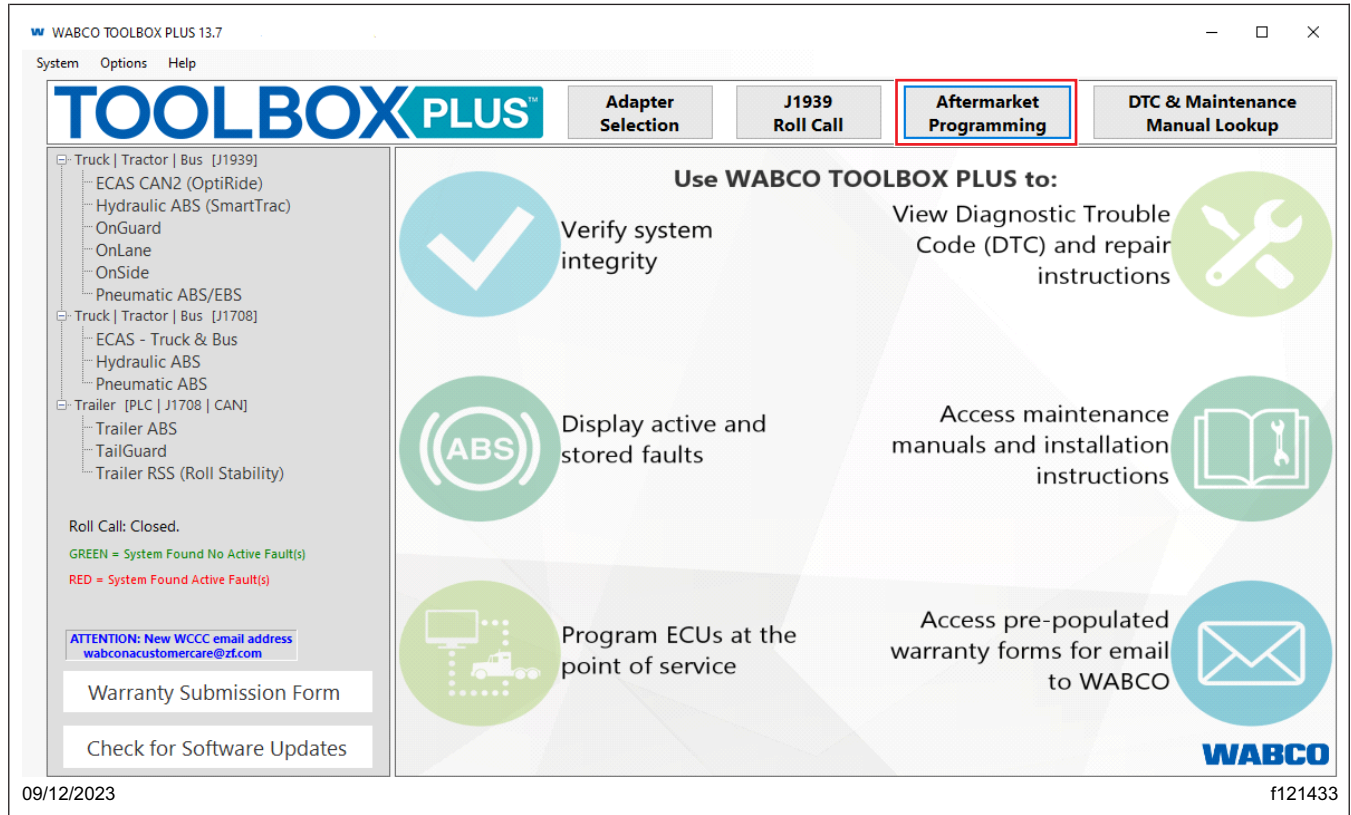

Fig. 17, Selecting Aftermarket Programming
22. Open WABCO TOOLBOX™ (version 13.7 or higher at the time of publication). In the main menu, select 'Aftermarket Programming.' See Fig. 17.